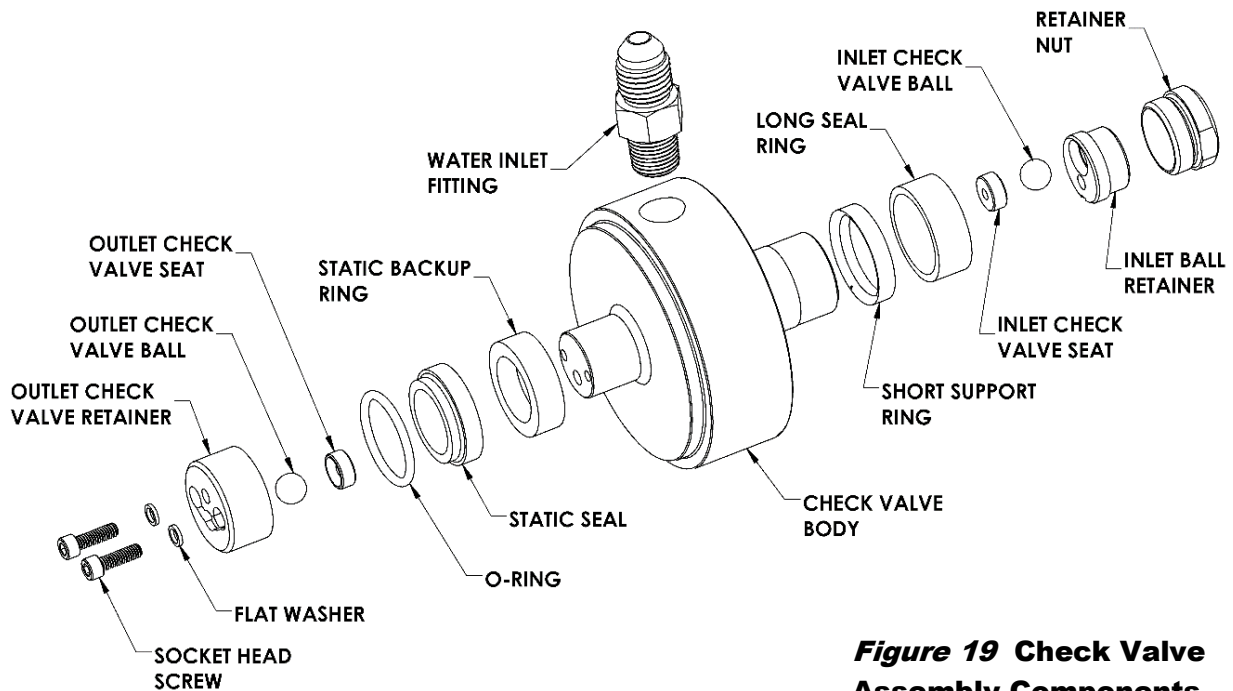

Figure 19 Check Valve Assembly Components
2. **Noting *Figure 19*** on page 23, **remove** the: